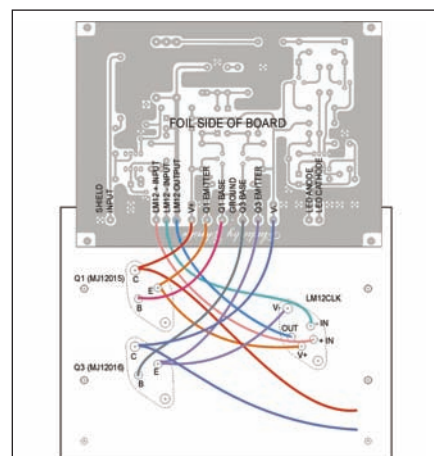

FIGURE 1: Heatsink wiring.
- Here is a copy of the heatsink wiring (Fig. 1).